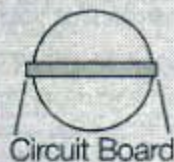

Figure 2
2. Use care when installing the battery and observe the correct polarity, when the battery is inserted (see Figure 2).